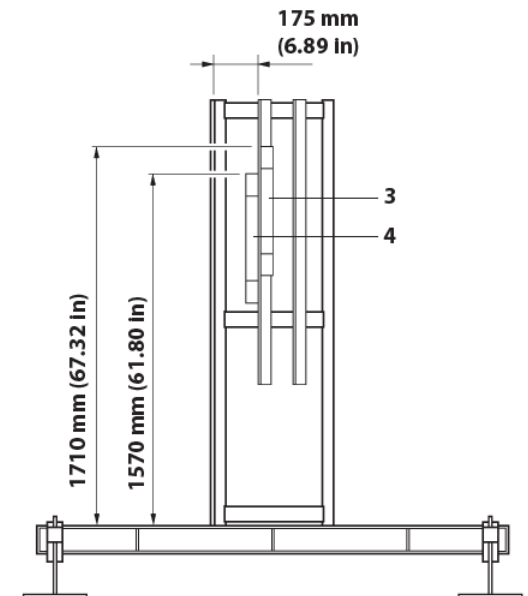

Figure 6.11
The base unit is supplied with the end-of-travel pad (1) and the downward overtravel pad (2) already installed, as shown in figure 6.11 and appropriately adjusted to be able to operate at the minimum height from the ground. In normal operating conditions, the downward end-of-travel pad (1) has the function of stopping the cabin at the right height from the ground and is positioned about 8 in) lower than the overtravel pad (2). The overtravel pad (which is also a safety device) intervenes by stopping the cabin and interrupting the power supply if the normal downward end-of-travel malfunctions or is damaged. If the overtravel pad intervenes when the normal downward end-of-travel is in good operating condition, this indicates the machine is malfunctioning. One of the most probable causes is an increase in the braking distance, due to excessive wear and tear or poor adjustment of the motor brake.